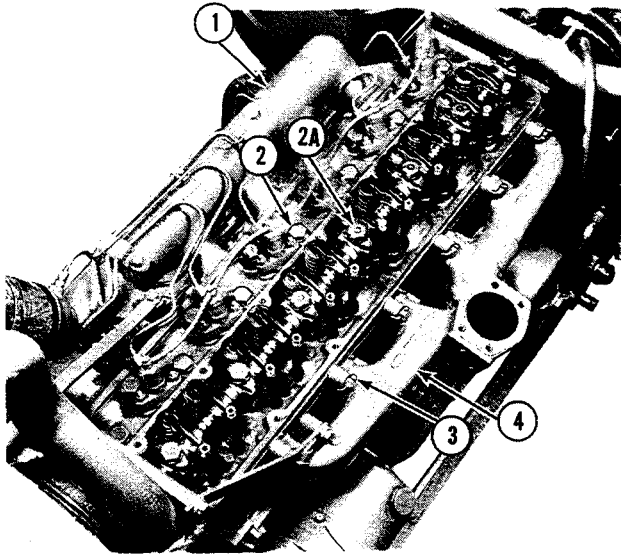

Figure 10
13. Visually check the push rods for straightness by rotating them with the valve closed. Loosen the rocker arm shaft bolts evenly and remove the assembly from the tractor, Figure 10.